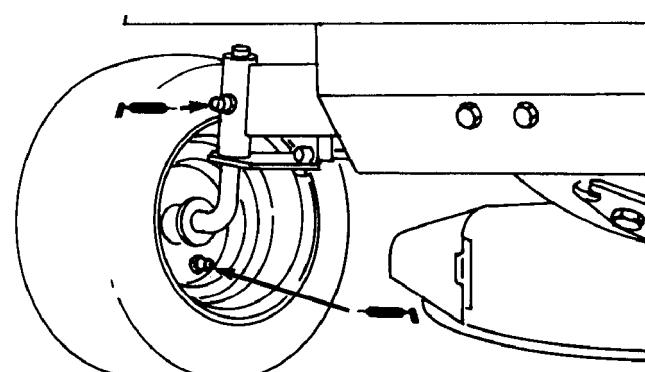

Figure 17
1. Lubricate the front wheels and spindles until grease begins to ooze out of the bearings (Fig. 17).